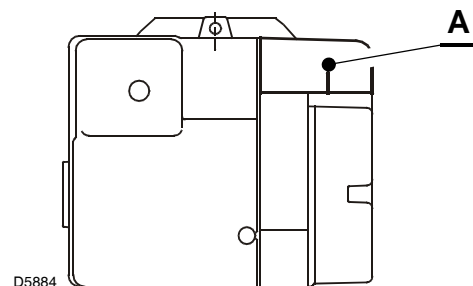

Fig. 9
In case of **CF** applications, the burner shall not operate without protection (A)(Fig. 9) of the suction inlet.